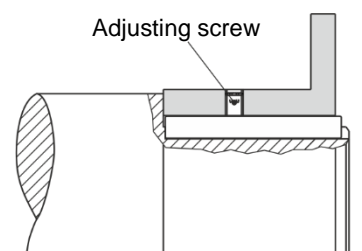

Fig. 3
- ❑ For axial securement, please provide an additional adjusting screw (ISO 4029 - 45H) as an alternative to a press cover (see Figs. 3 and 6).